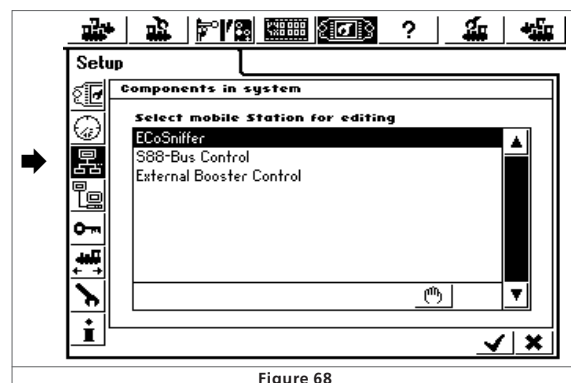

Figure 68
You find this menu via the set-up menu "Configuring Devices" as per Figure 68: Select "External Booster Control" from the list of devices and press "Edit".
- Select "s88-Bus-Control" from the list in "Devices on ECoSlink" (also see Figure 68).